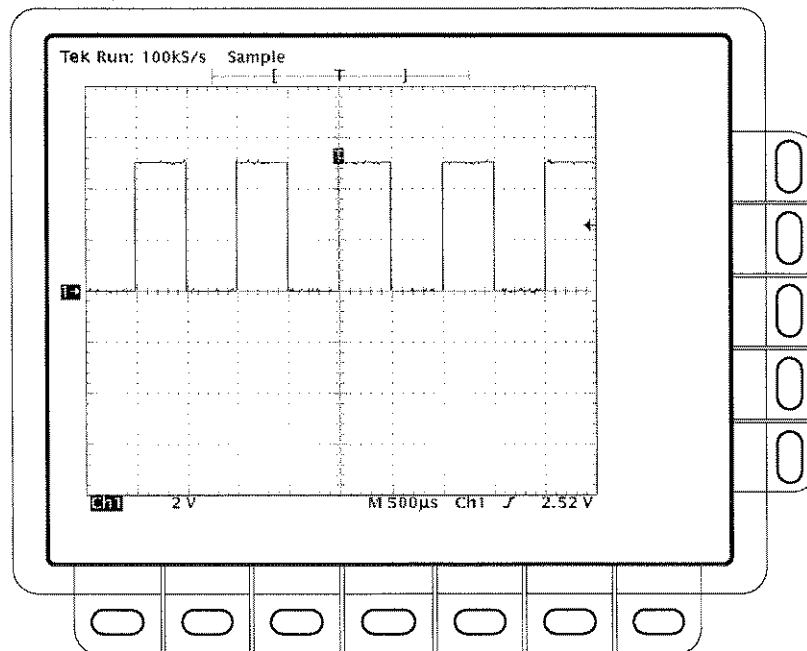

Figure 2-5: Compensation waveform
2. Press AUTOSET. The oscilloscope displays the compensation waveform. It should resemble the waveform shown in Figure 2-5.